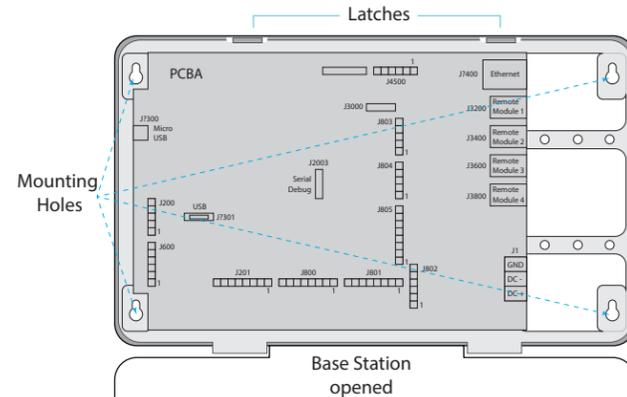

Fig. 1.2
- 3** If you are replacing an existing HME product such as EOS®, mounting the base station close to the location of the base station you are replacing may enable you to use the existing wires/cables without having to route new wires. However, verify the wires/cables are in good condition before using them. Open the base station and mark the mounting location on the wall through the four mounting holes at each corner inside the base station (see Fig 1.2). Mount the base station using the hardware provided.